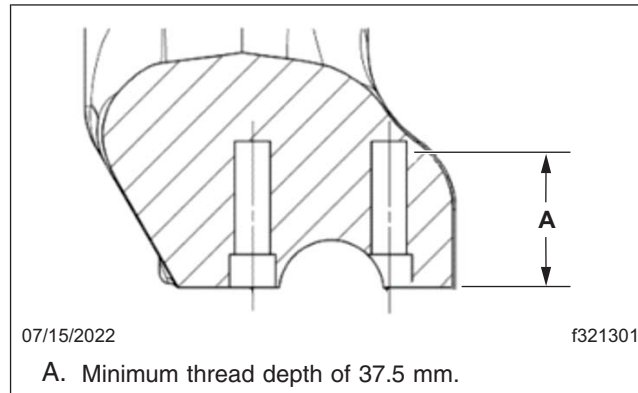

Fig. 2, Thread Depth
- Using a M12x1.5 bottom tapping tool, tap the two spring clamp mounting holes on the spring mount to the required depth. See Fig. 2 for minimum thread depth.
13. Using a M12x1.5 bottom tapping tool, tap the two spring clamp mounting holes on the spring mount to the required depth. See Fig. 2 for minimum thread depth.